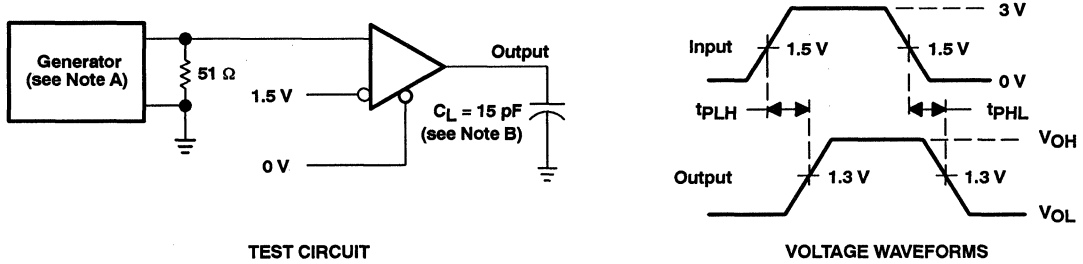

Figure 7. Receiver Propagation Delay Times
**switching characteristics over recommended ranges of supply voltage and operating free-air temperature,  $C_L = 15\text{ pF}$  (unless otherwise noted) (see Figure 7)**